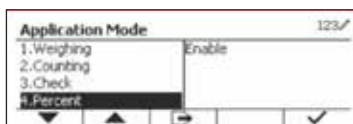

Figure 73
3. In the Application Mode menu, enter the Percent submenu. (See Figure 73)